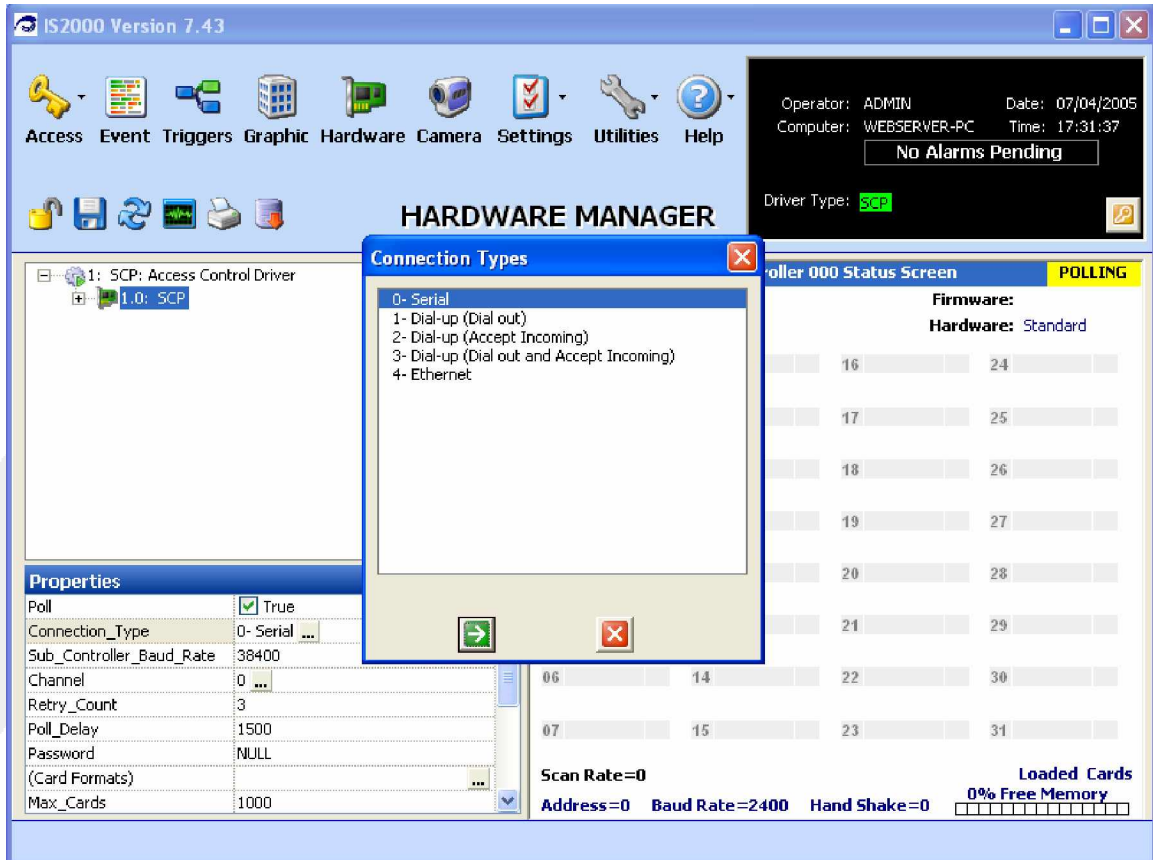

Figure 10 - Connection Types
Figure 10 illustrates how to establish the connection type for the controller. Note: when you are adding hardware you need to know the connection type, controller model and baud rate for each one that you are adding to the system.
2. In the Properties box, click on the (...) in the "Connection\_Type" field. See Figure 10.